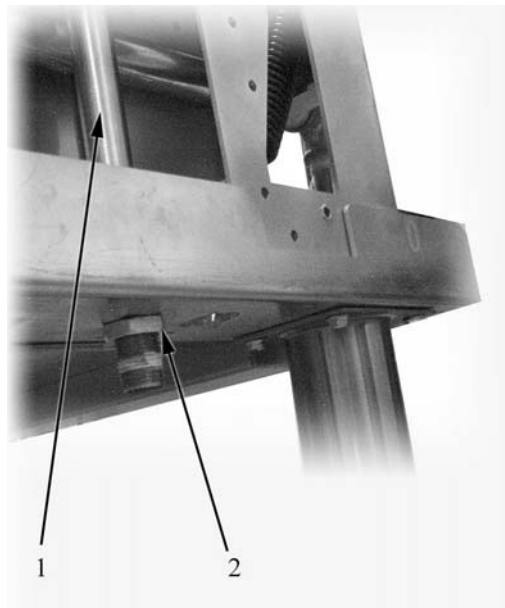

Fig. 10
- unscrew the fixing nut of the water column extension item 2 in Fig. 10;